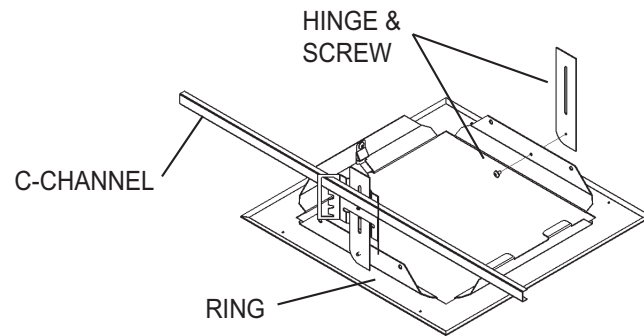

FIGURE 2
1. Attach both hinges to mounting ring using supplied #10-16 x 3/8" screws. Drive screws from the inside, through the ring, and in to the hanger. See Figure 2.
2. Prepare ceiling opening. See Figure 2 and directions below: